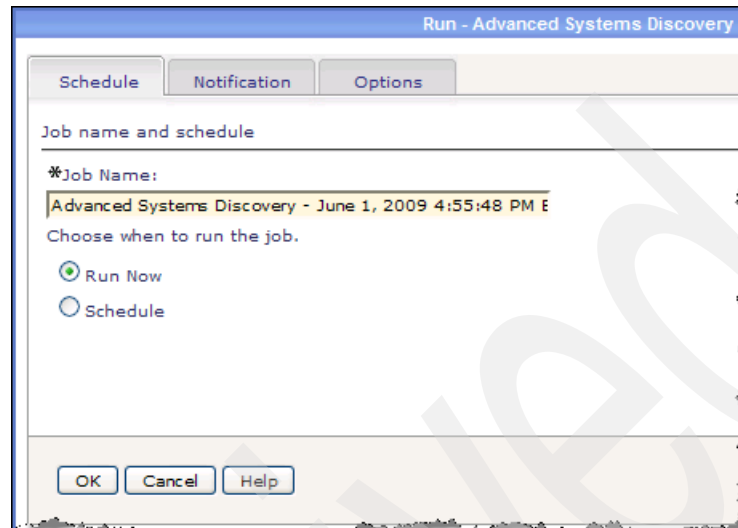

Figure 5-36 Run Advanced System Discovery
11. As shown in Figure 5-36, you can choose to schedule the Advanced System Discovery task as well as set notification options.